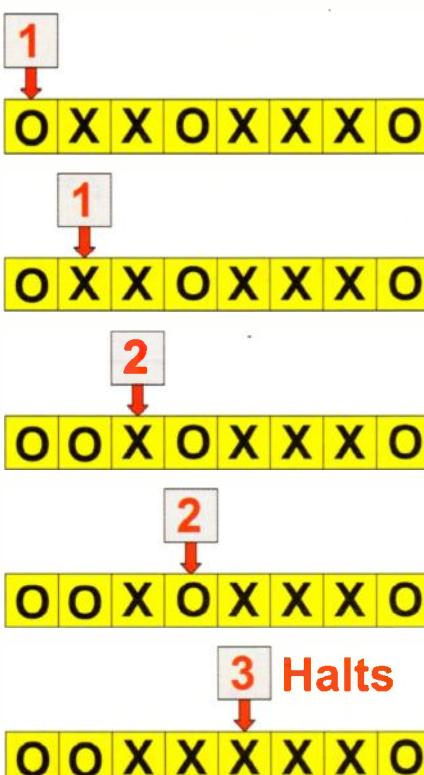

Figure 2.
a time, and can be in one of a fixed number of internal states. Each time the processing unit lands on a new portion of the tape it reads the symbol at that position. It then looks up the action to be taken for the specific combination of its internal state and the symbol read. This action will specify (1) what symbol to write on the tape in place of the existing symbol (this can, of course, be the current symbol in which case there will be no change), (2) what internal state to adopt, and (3) whether to move one position to the left or one position to the right on the tape after writing the symbol. As soon as the processing unit has moved, the process is repeated. This continues until a combination of internal state and tape symbol is encountered for which no action has been specified. At this point, the computation is complete and the computer halts. An example is shown in Figure 2. Here we see the rules for a Turing Machine designed to add together two numbers, each represented as a string of Xs, separated by Os (e.g. 3 is represented by OXXXO), plus the state of play throughout the computation.